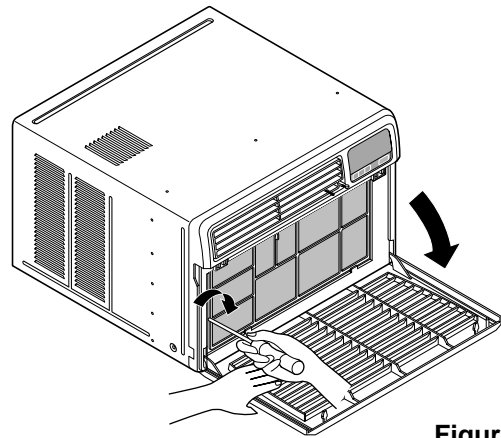

Figure 15
2. Remove the screw that fastens the front grille.(See Figure 15)